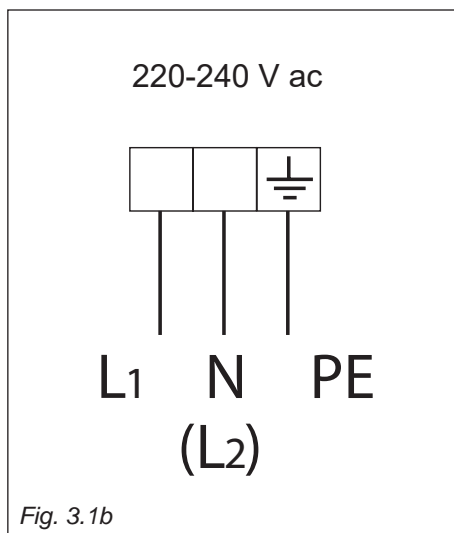

Fig. 3.1b
- Connect the wires to the terminal block “B” as shown in the diagram in figure 3.1b.